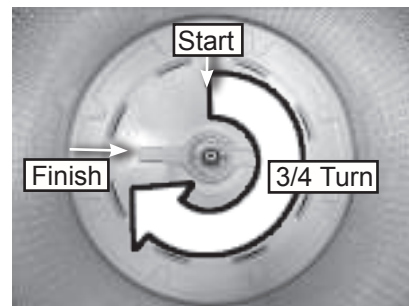

Figure 9
11. Tighten spanner nut 3/4 of a turn by lightly tapping spanner wrench with a hammer. See Figure 9.